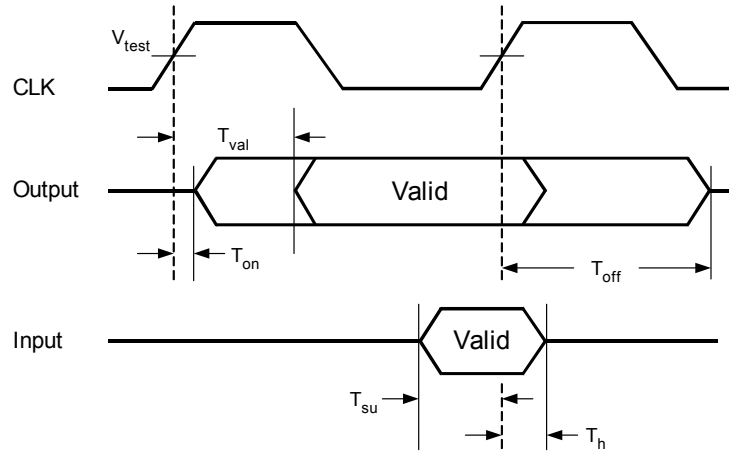

Figure 23-1. PCI/PCI-X Signal Timing Specification
Figure 23-1 illustrates the PCI 6520 signal timing specifications. Table 23-5 delineates the minimum and maximum values, for 66 MHz PCI and 133 MHz PCI-X, for the symbols that appear in Figure 23-1.
**Note:** Refer to PCI-X r1.0b for detailed descriptions of the symbols that appear in Figure 23-1.
Table 23-5. 66 MHz PCI and 133 MHz PCI-X Signal Timing for Figure 23-1